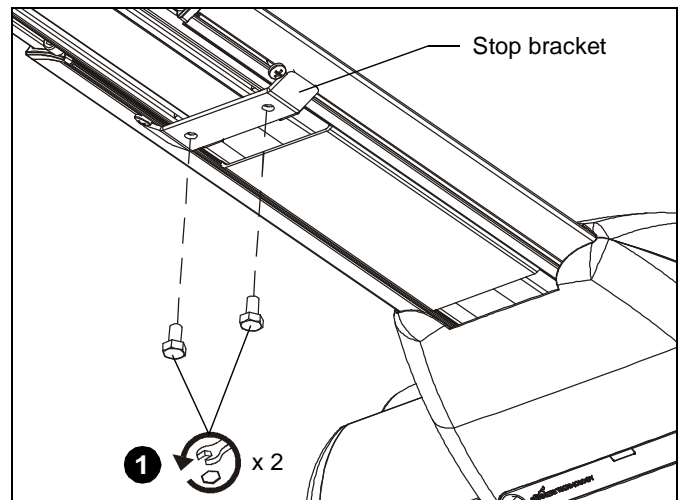

Figure 47
- Remove two bolts holding stop bracket in place on underside of short throw projector mount. (See Figure 47)